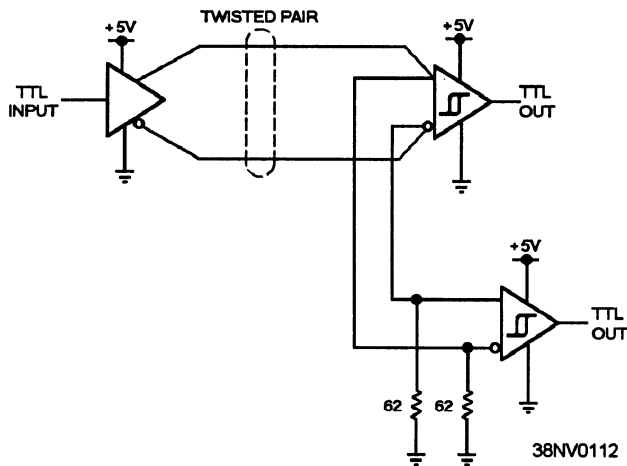
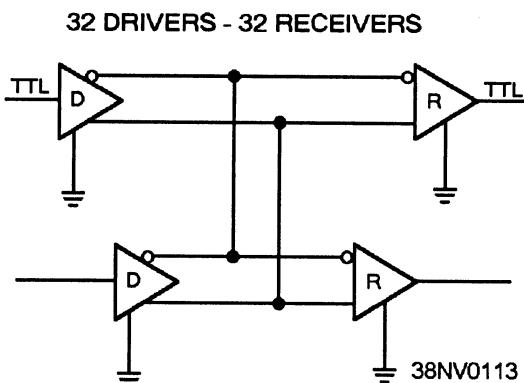

Figure 4-37.—Example of differential point-to-point line drivers and receivers connected in parallel.
Figure 4-38.—Example of differential multiple source and destination line drivers and receivers.
• **Differential drivers and receivers** —Differential drivers and receivers are used over long distances for high-speed communications. They are usually twisted pairs of wires or coaxial cables. Differential types can be point-to-point (fig. 4-37) or multiple source and destination (fig. 4-38).